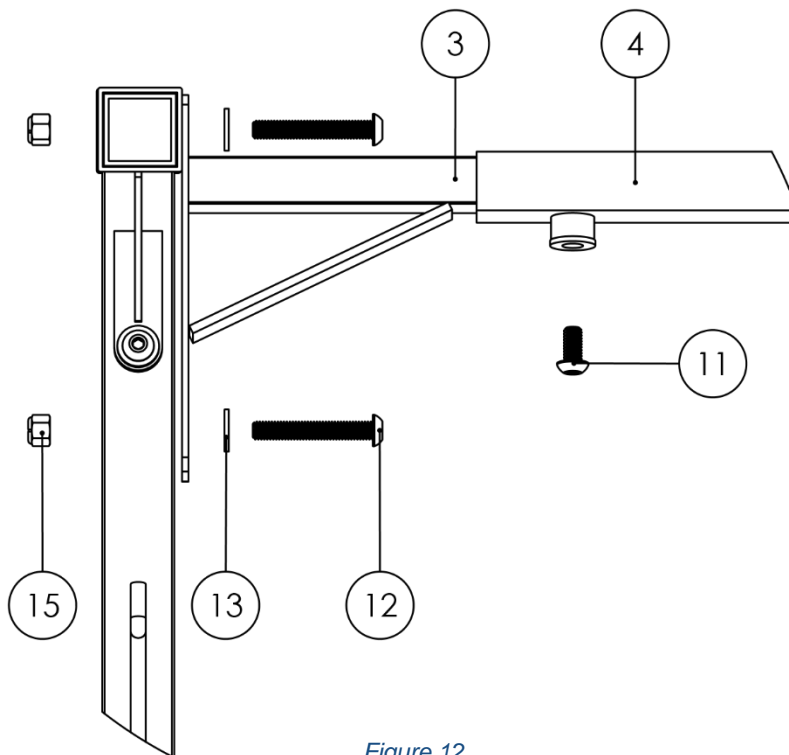

Figure 12
9. **Secure the Siderails onto the Legs.** Locate the holes found on the back of the Crossbars and the Legs. These holes will be used to secure the Siderails onto the rack. As shown in Figure 12 thread (2) 2.5" Button Head Screws (Item No. 12) with Metal Washers (Item No. 13) and Locknuts (Item No. 15) at every corner.